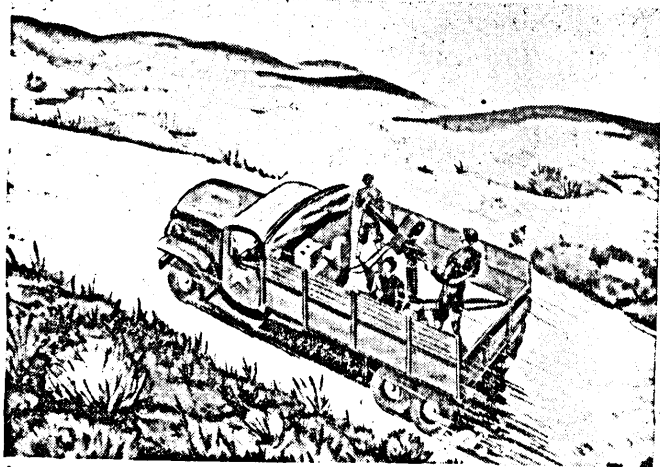

FIGURE 4.—Action on the march.
■ 19. ACTION ON THE MARCH.—Drill and fire action on the march are conducted in the same manner and by the same commands. When there is possibility of hostile air action during a march, the gun is manned continuously, and the crew keep a careful watch for enemy aircraft. (See fig. 4.) At the command, TARGET, by any member of the crew or by any other person traveling in the column, the gunner directs the driver to stop his truck or take such other action as may be necessary. Before the march is begun each crew member is assigned a sector which he is to watch.